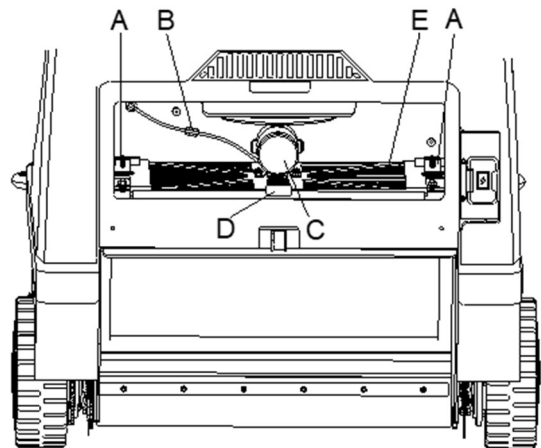

Figure 31
8. Disconnect the filter shaker motor (C, Figure 31) connector (B, Figure 31).
9. Remove the dust filter fixing frame (D, Figure 31).
10. Remove the dust filter (E, Figure 31).
- Install the filter (E, Figure 31) with the wire gauze (B, Figure 32) facing upwards.